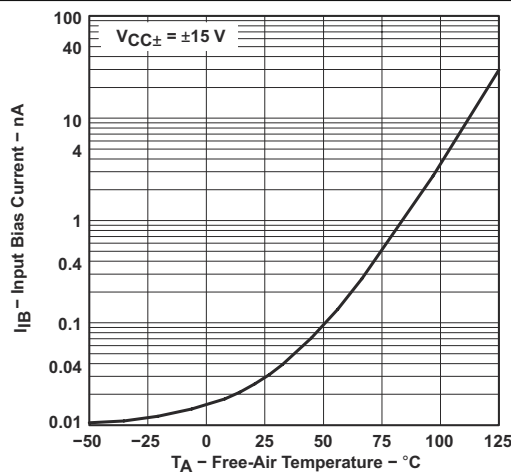

Figure 6-12. Input Bias Current vs Free-Air Temperature
- (1) All characteristics are measured under open-loop conditions with zero common-mode input voltage unless otherwise specified. Full range for  $T_A$  is  $0^\circ\text{C}$  to  $70^\circ\text{C}$  for TL06xC, TL06xAC, and TL06xBC and  $-40^\circ\text{C}$  to  $85^\circ\text{C}$  for TL06xI.
- (2) Input bias currents of an FET-input operational amplifier are normal junction reverse currents, which are temperature sensitive, as shown in Figure 6-12. Pulse techniques are used to maintain the junction temperature as close to the ambient temperature as possible.
- (3) Assured by design and characterization; not production tested.
- (1) All characteristics are measured under open-loop conditions with zero common-mode input voltage, unless otherwise specified. Full range for  $T_A$  is  $0^\circ\text{C}$  to  $70^\circ\text{C}$  for TL06xC, TL06xAC, and TL06xBC and  $-40^\circ\text{C}$  to  $85^\circ\text{C}$  for TL06xl.
- (1) This parameter is not production tested.
- (2) All characteristics are measured under open-loop conditions, with zero common-mode voltage, unless otherwise specified.
- (3) Input bias currents of an FET-input operational amplifier are normal junction reverse currents, which are temperature sensitive, as shown in Figure 6-12. Pulse techniques are used to maintain the junction temperature as close to the ambient temperature as possible.
- (4) Assured by design and characterization; not production tested.